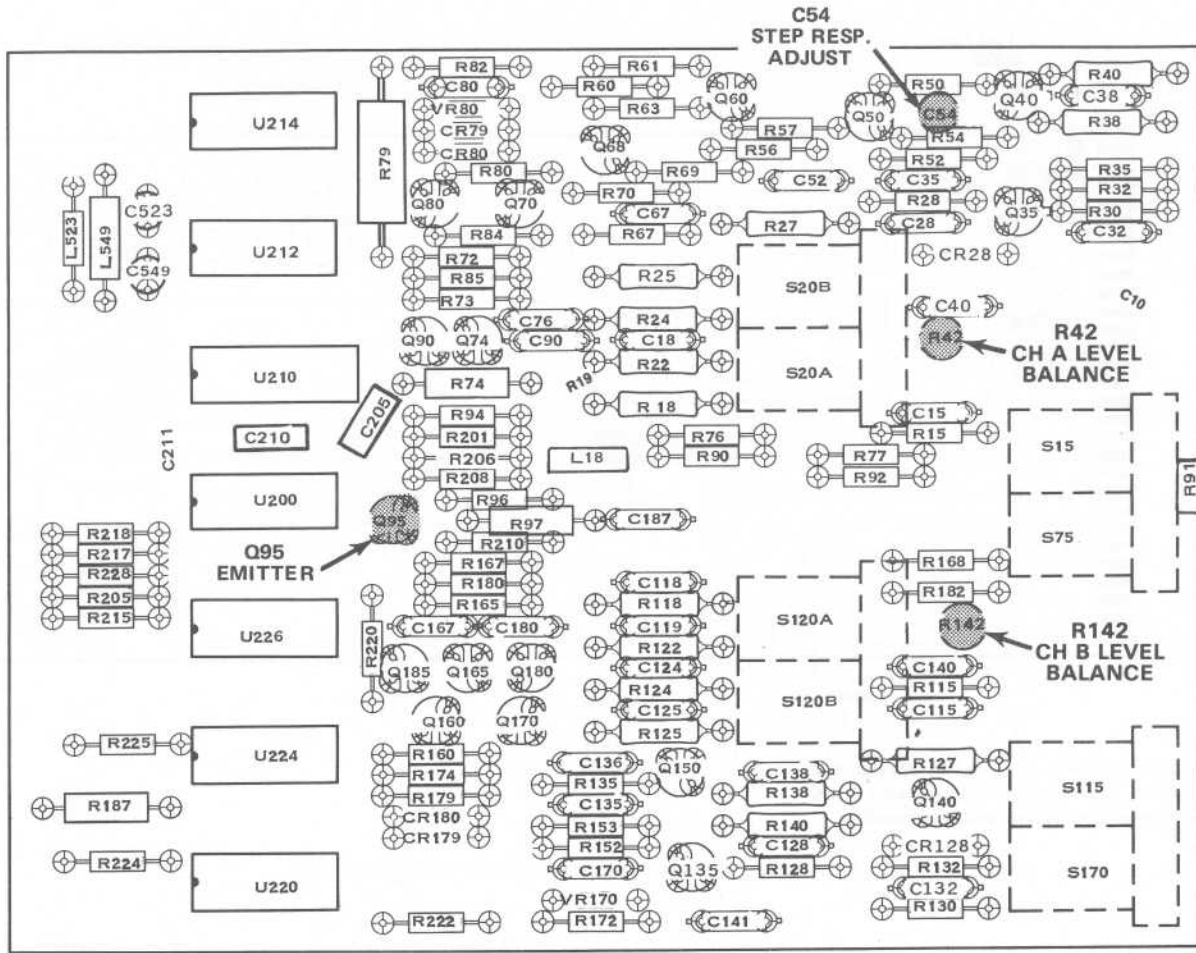

Fig. 3-2. Location of Level Balance and Step Response adjustments.
e. Turn Level Bal control R42 (see Fig. 3-2) extreme clockwise.
b. Set the CH B LEVEL control to its mechanical center (midscale). Turn CH B Level Bal control R142 (see Fig. 3-2) to its extreme counterclockwise position.
d. Adjust—capacitor C255 in the DC 503 (see Fig. 3-2) for minimum pulse drift across the screen of the test oscilloscope. At the conclusion of the adjustment, the drift should not exceed 1 division per second.
b. Connect a 100X probe (P6057) from the emitter of Q95 (see Fig. 3-2) in the DC 503 to the CH 1 input of the sampling unit; connect the probe ground clip to chassis ground of the DC 503.